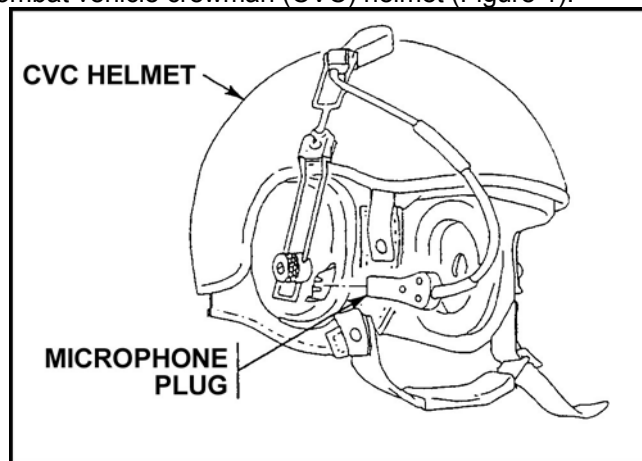

Figure 1. CVC helmet.
- a. Remove the combat vehicle crewman (CVC) helmet (Figure 1).